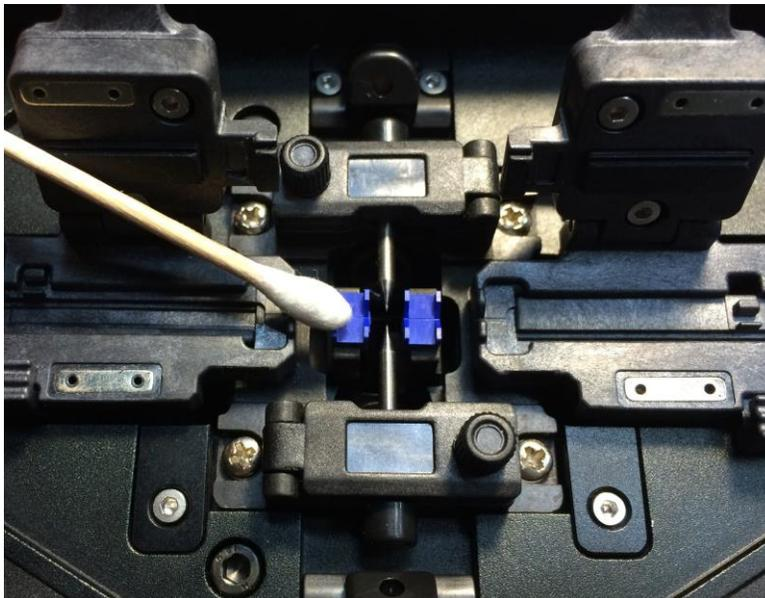

Fig.4-1 Cleaning V-grooves
- 2) Clean the bottom of the V-groove with an alcohol-soaked thin cotton swab as shown in Fig. 4-1. Remove excess alcohol from the V-groove with a clean dry swab.